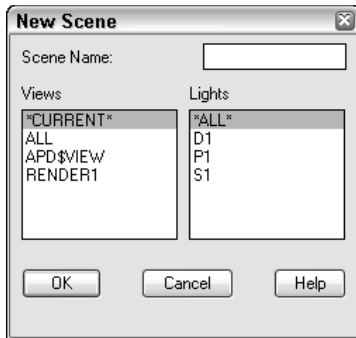

Figure 25-16: The New Scene dialog box.
1. Click New to open the New Scene dialog box, shown in Figure 25-16. The New Scene dialog box lists all of the saved views and all of the lights that you've created.